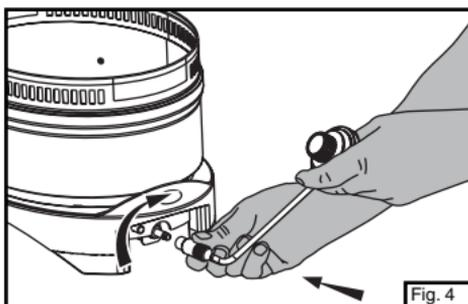

Fig. 4
- Push in and screw regulator into cooker hand tight. (Fig. 4)